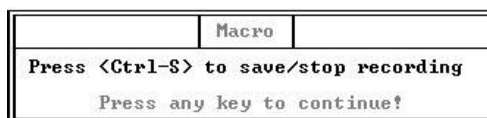

Figure 37 Start Recording Macro
6. Press any key, when you are ready to start recording the macro. Please see Figure 37.